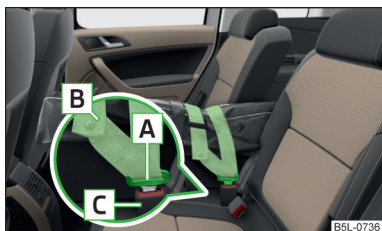

Fig. 95
- › Insert the lock tongues **A** » Fig. 95 in the belt locks of the rear middle seat belt **C**, first on the one side and then on the other side.